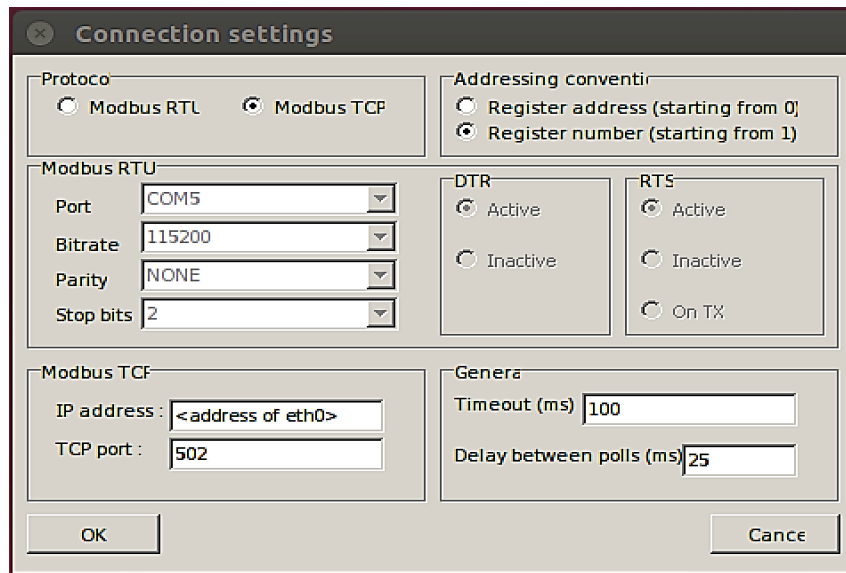

Figure 2. Radzio! configuration
6. Select Modbus TCP and enter the IP address of the `eth0` interface and TCP port number 502 as shown in Figure 2. ➡ Click OK.